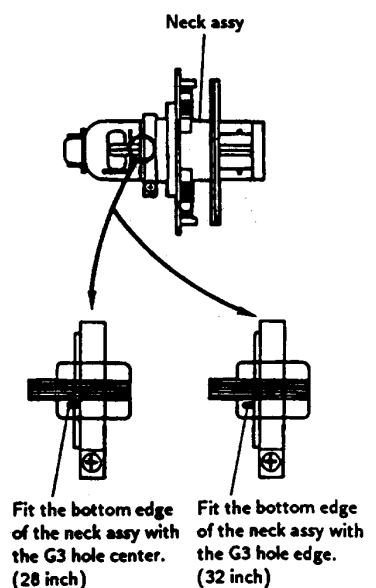

Fig.3-2.
3. Position the neck assy as shown in Fig.3-2.